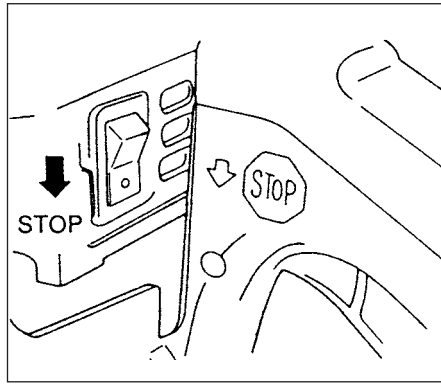

Fig.2-6
**Desligar o motor (Fig. 2-6)**